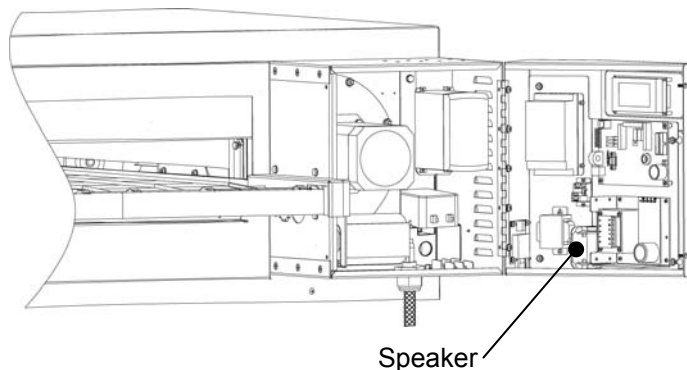

Figure 8: HhC 3240 Speaker Location
3. Access the failed speaker (Figures 8 and 9).